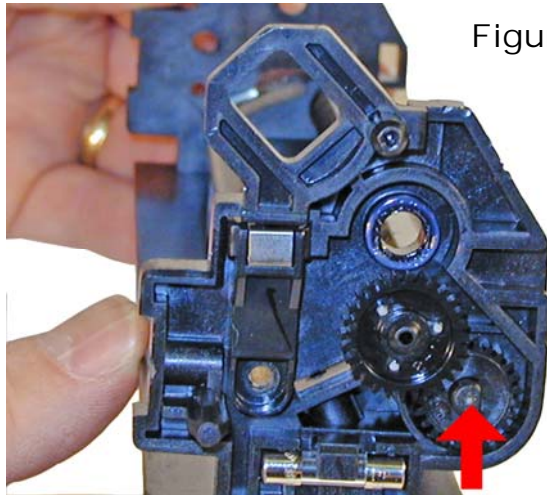

Figure 41
35) Install the cleaned auger in the chamber, keyed end into the gear. See **Figure 41**